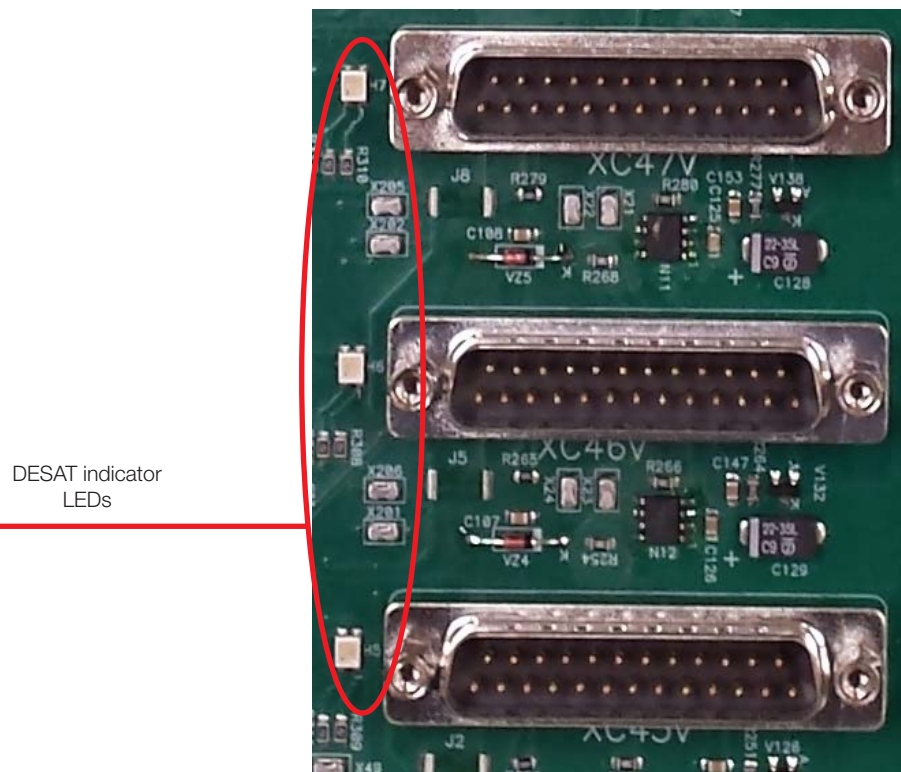

Figure 6.1: LEDs that indicate fault on the arms of the power units (desaturation)
1. In case of Modular Drive, the HMI does not show in which book the fault occurred. LEDs on the IFSC board indicate which UP11 caused the fault, Figure 6.1 on page 6-9. When a reset is performed the LEDs are switched off, going on again if the fault persists.